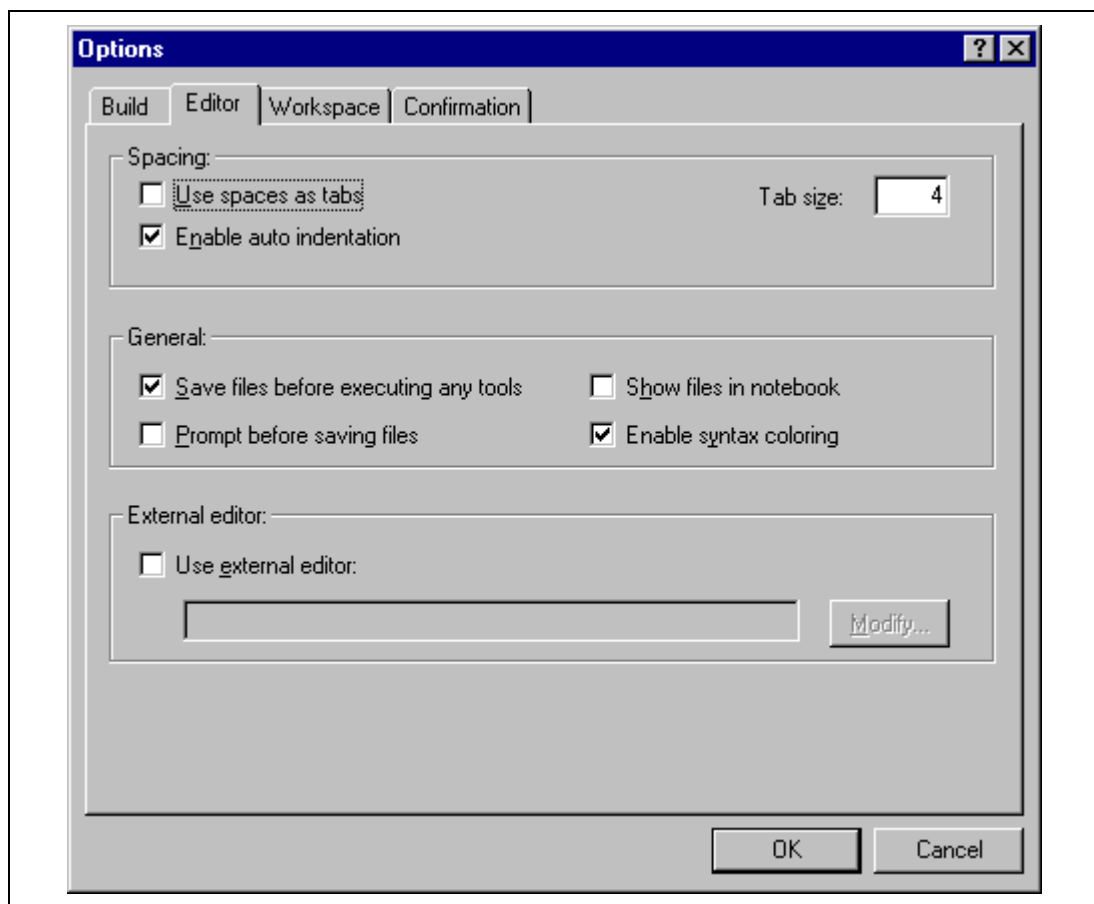

Figure 4.7: Options Dialog Editor Tab
1. Select [**Tools->Options...**]. The “Options” dialog will be displayed. Select the “Editor” tab * MERGEFORMAT (figure 4.7)).
1. Select [**Tools->Options...**]. The “Options” dialog will be displayed. Select the “Editor” tab * MERGEFORMAT (figure 4.7).